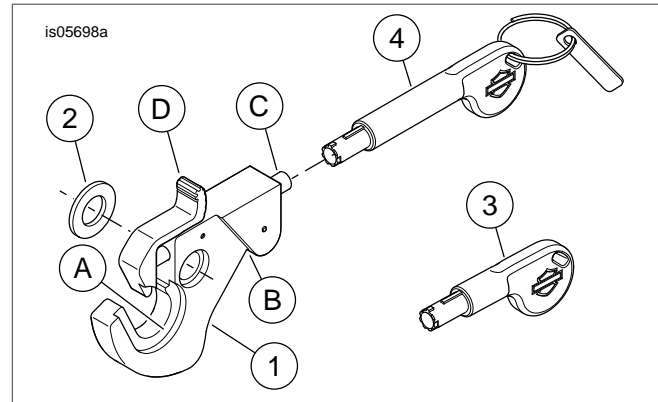

Figure 8. Service Parts: Detachables Lock Kits
See Figure 8 and Table 2.
See Figure 8. Depending on the installed detachable, the position of the relief (A) and undercuts (B) will be used as spacers or docking point mounts. Verify that the locking latch is positioned so there is key access for unlocking the latch.
1. **Locking the Latch:** See Figure 8. When the detachable is installed, push the spring-operated lock (C).